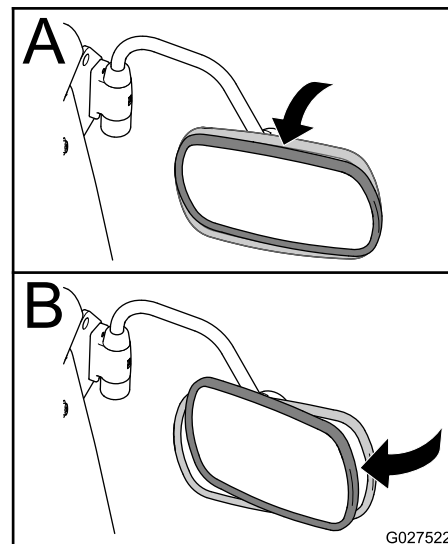

Figure 8
3. Use 2 hands to rotate the mirror up or down on its ball mount (A in Figure 8).
4. Use 2 hands to rotate the mirror left or right on its ball mount (B in Figure 8).